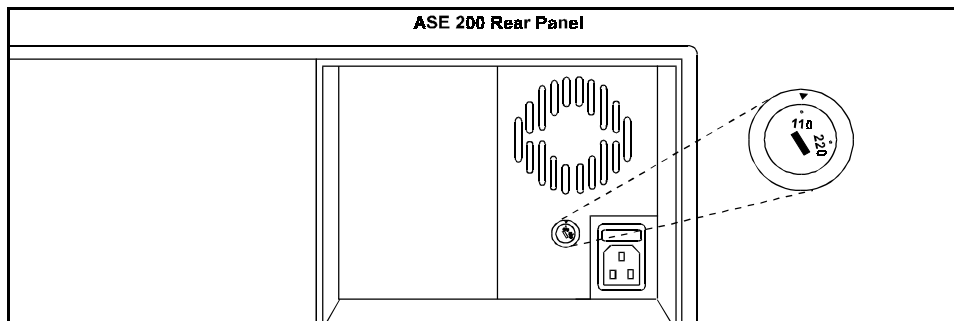

Figure B-3. Voltage Range Switch
2. Check the voltage range switch beside the power receptacle (see Figure B-3); if the setting does not match the voltage from the power source, reset the switch. To do so, insert a small screwdriver into the slot and turn the switch to the 110 setting (for voltages between 90 and 130 Vac) or the 220 setting (for voltages between 220 and 260 Vac).